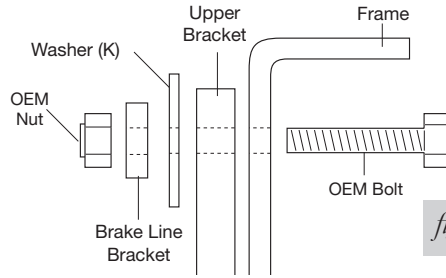

fig. 6
2. Insert the existing emergency brake cable bolt through the frame and slot in the upper bracket. Install a large washer (K) over the bolt and push it against the upper bracket. Install the emergency brake line bracket back in place and finish by installing the OEM nut to the outside (Fig. 6). Leave loose at this time.